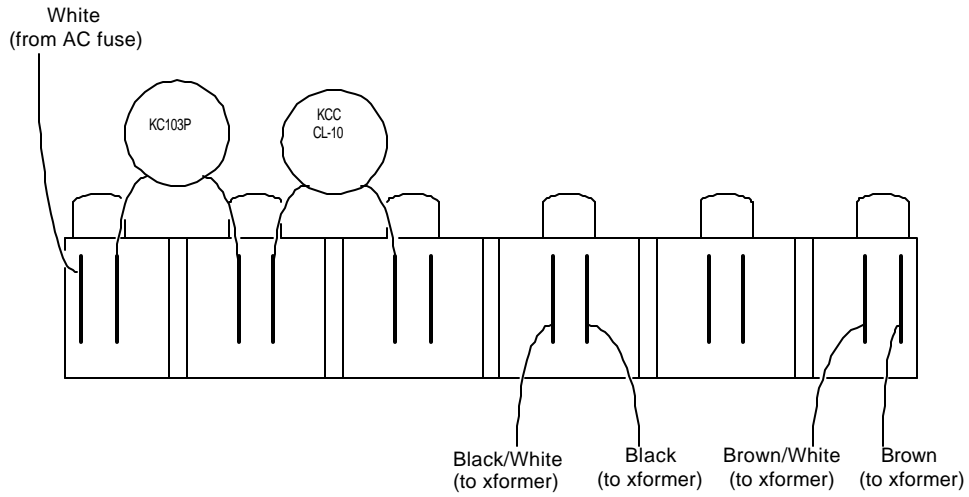

Figure 2: Transformer lead configuration for 120VAC operation (multivoltage units)
3. Move the transformer leads so they are configured as shown in figure 2.